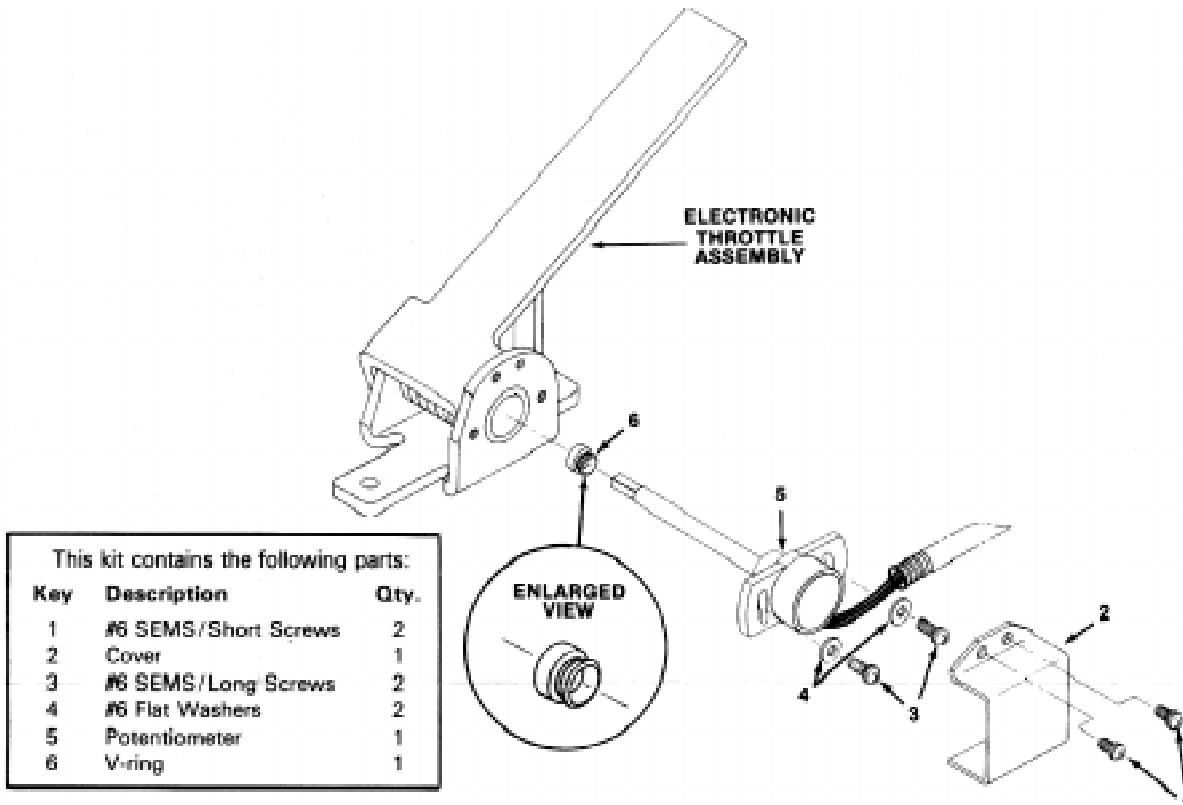

Figure 1 — ET-1 Electronic Throttle Explode
1. Slide the V-ring (6) onto the shaft of the potentiometer (5) with the beveled end of the V-ring going on first. (Refer to Figure 1)
2. The square end of the potentiometer shaft (5) must be inserted into the square hole in the electronic throttle assembly.